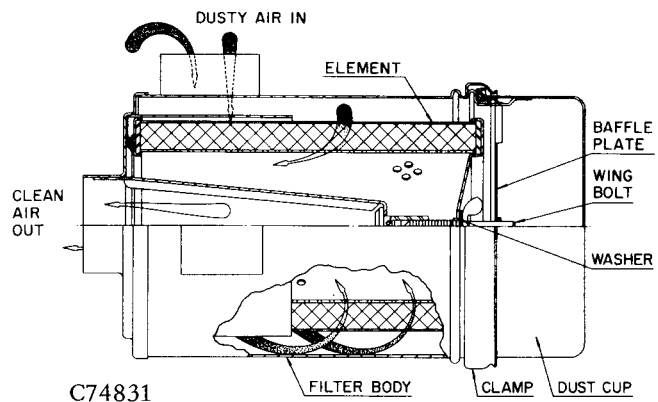

FIGURE 2-6. – HEAVY-DUTY AIR FILTER
**HEAVY-DUTY AIR FILTER** (Figure 2-6) – Extremely dusty locations require a heavy-duty two-stage dry type air filter. If a unit has been so equipped, service the filter as follows: